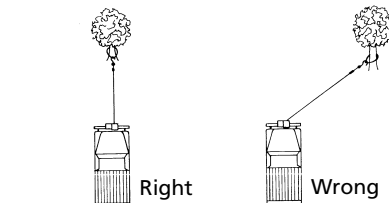

Figure 5
13. AVOID CONTINUOUS PULLS FROM EXTREME ANGLES as this will cause the wire rope to pile up at one end of the drum (Figure 5). This can jam the wire rope in the winch, causing damage to the wire rope or winch itself.